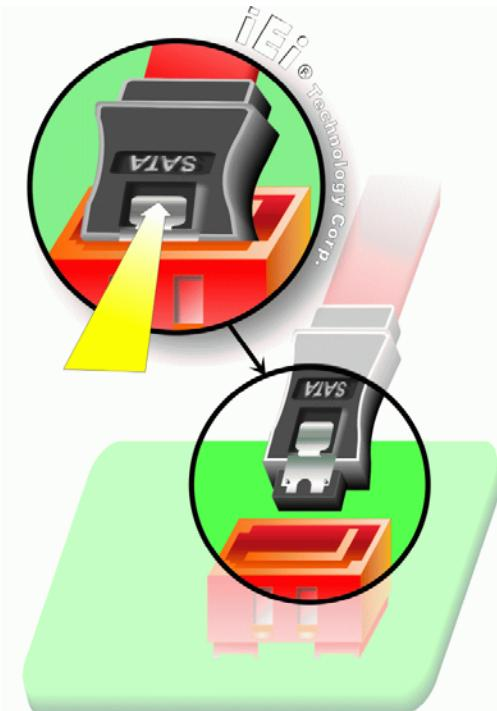

Figure 5-17: SATA Drive Cable Connection
Step 2: Insert the cable connector. Press the clip on the connector at the end of the SATA cable and insert the cable connector into the onboard SATA drive connector. See **Figure 5-17**.